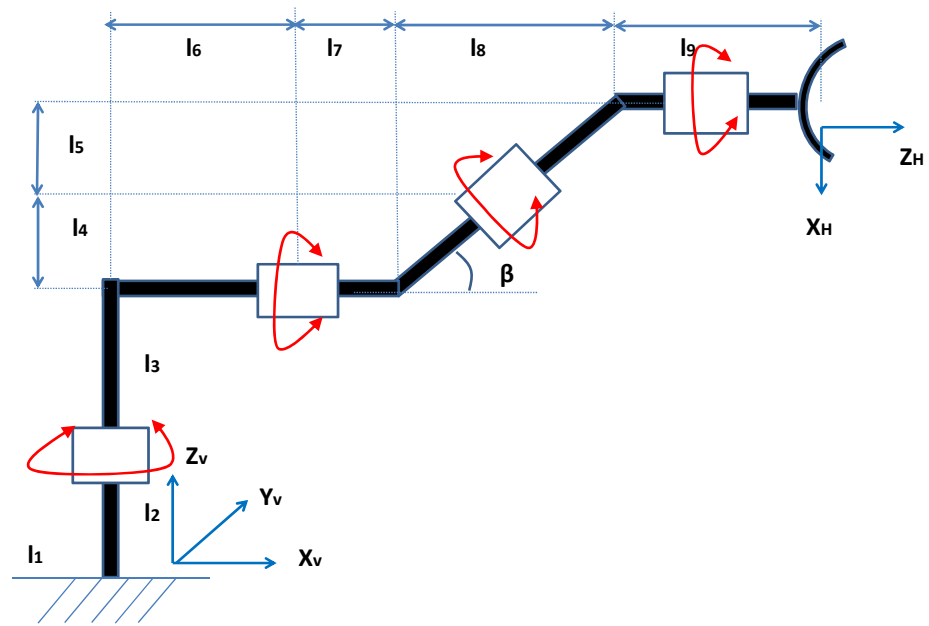

Figure Q2[b]
- [b] Figure Q2[b] shows a 4 degree of freedom robot designed for a specific operation.**